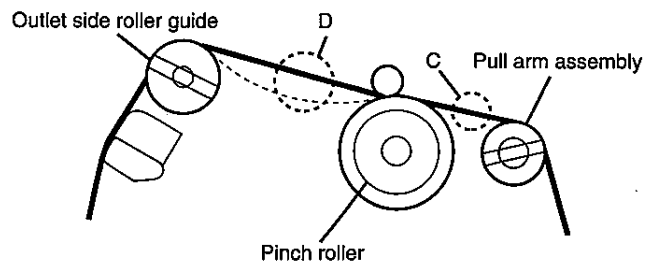

Figure 3-5
6. Then, after checking that there is no twisting of the tape in the C section of Figure 3-5, check for twisting and swelling in the D section. (Normal is 0.5 mm max.)